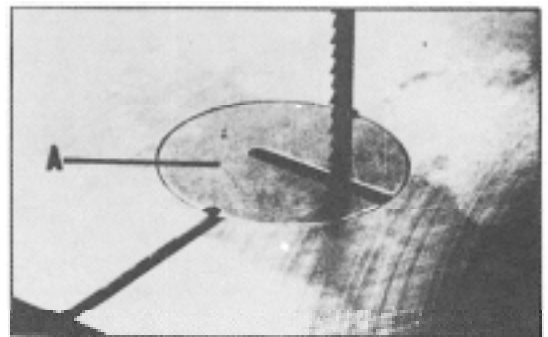

Fig 10
Place table insert (A) Fig. 10, in the hole provided in the table making sure the pin in the table engages one of the indents in the table insert.